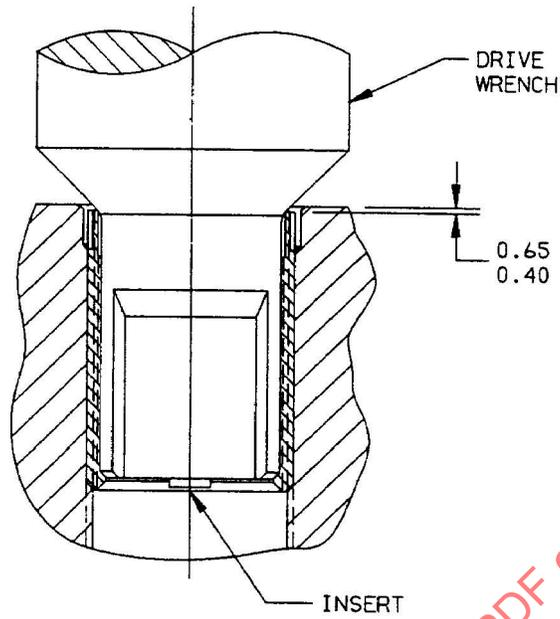

FIGURE 1
- 5.2 Engage the drive wrench into insert and wrench insert into the hole to 0.40 to 0.65 depth as shown in Figure 1.